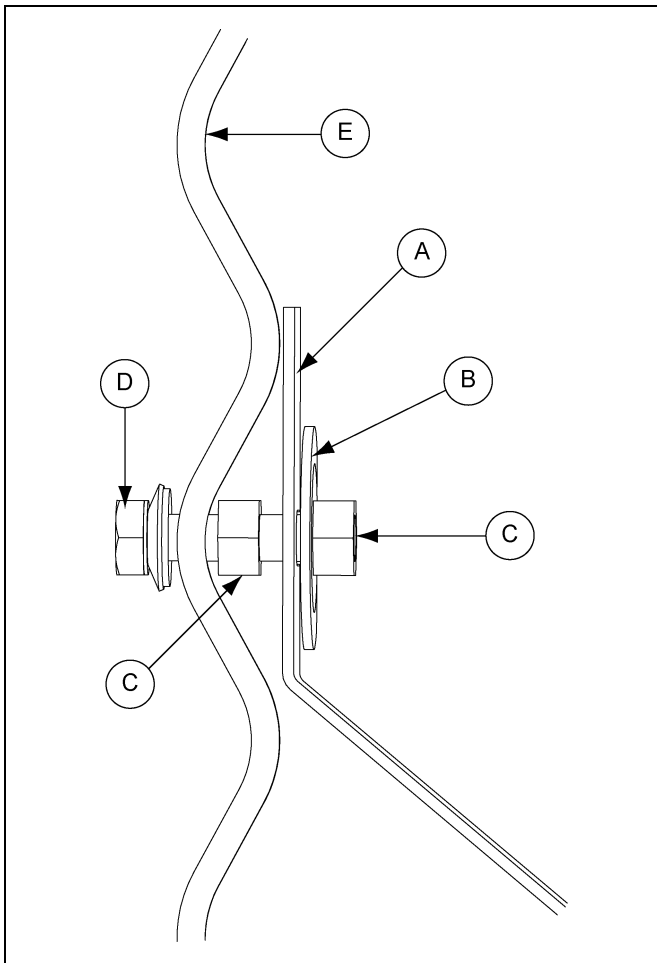

Figure 11A Flashing Hardware
1. Attach flashing (A) to the bin wall using the pre-punched holes at 9-1/3" above the horizontal seam.
2. Attach left side of the first piece of flashing (A) to the sidewall using the connection as shown in Figure 11A. Working clockwise, overlap the flashing (A) at the right hand hole of each piece of flashing. **NOTE:** *If bolts are installed at flashing seam location they will need to be removed.*